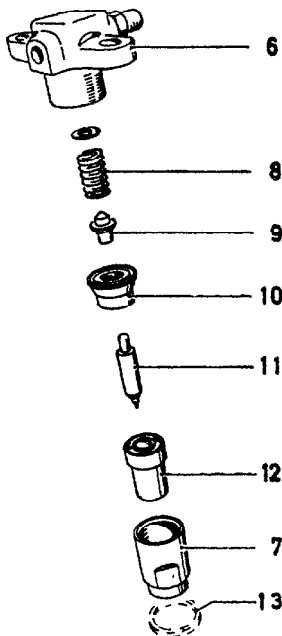

Fig. 31
3. The nozzle sleeve (7) is unscrewed and the nozzle removed. The needle (11) should move freely in the nozzle. Never touch the needle itself but hold it by the cylindrical spigot. Wash all components in clean fuel oil. Any particles adhering to the nozzle end or to the needle should be removed using a small piece of wood or matchstick.
4. Re-assemble the injector body exactly as shown in Fig 31, ensuring that item 9 is fitted with its shorter spigot towards the spring.